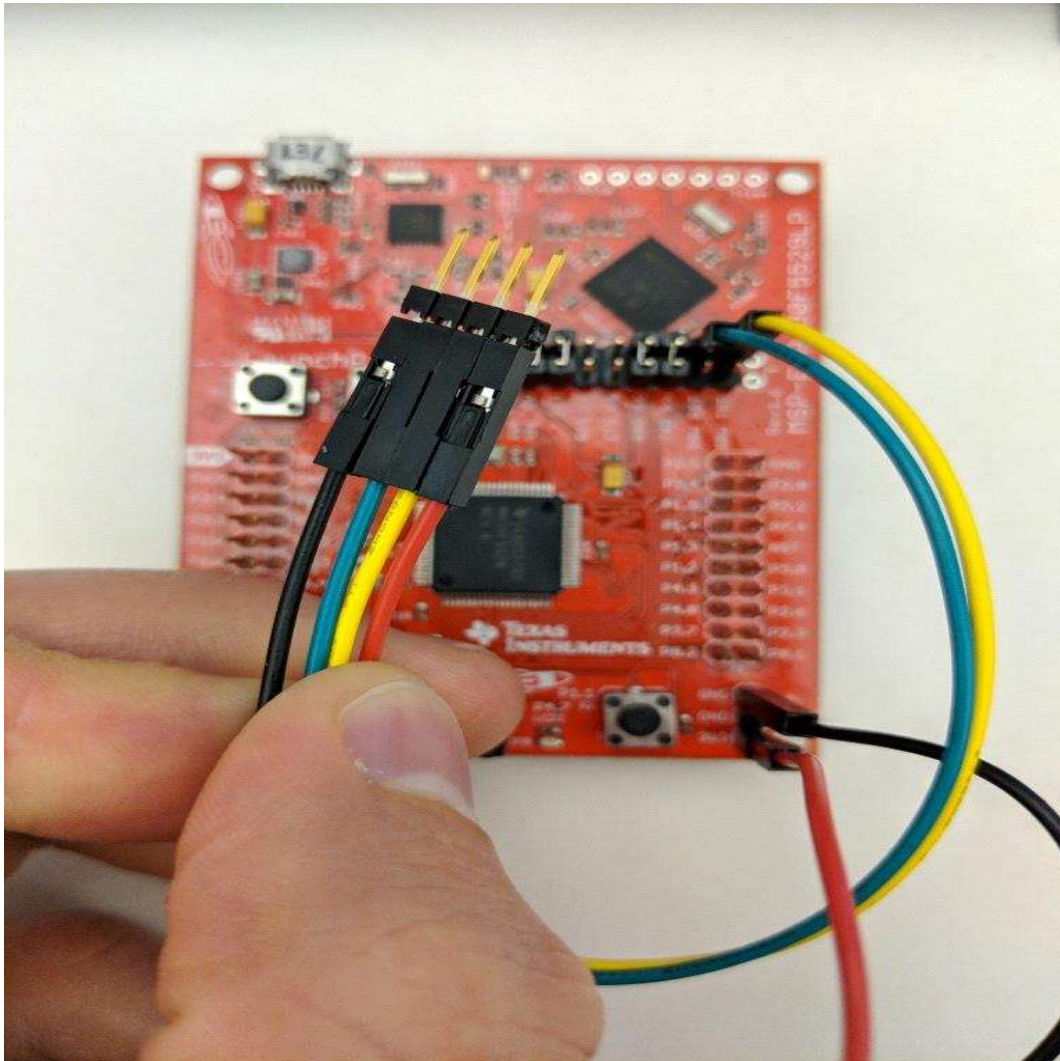

Figure 17. Wiring Connection
4. Create wiring harness shown by connecting jumper wires to SBW RST, SBW TST and GND as shown in Figure 17.